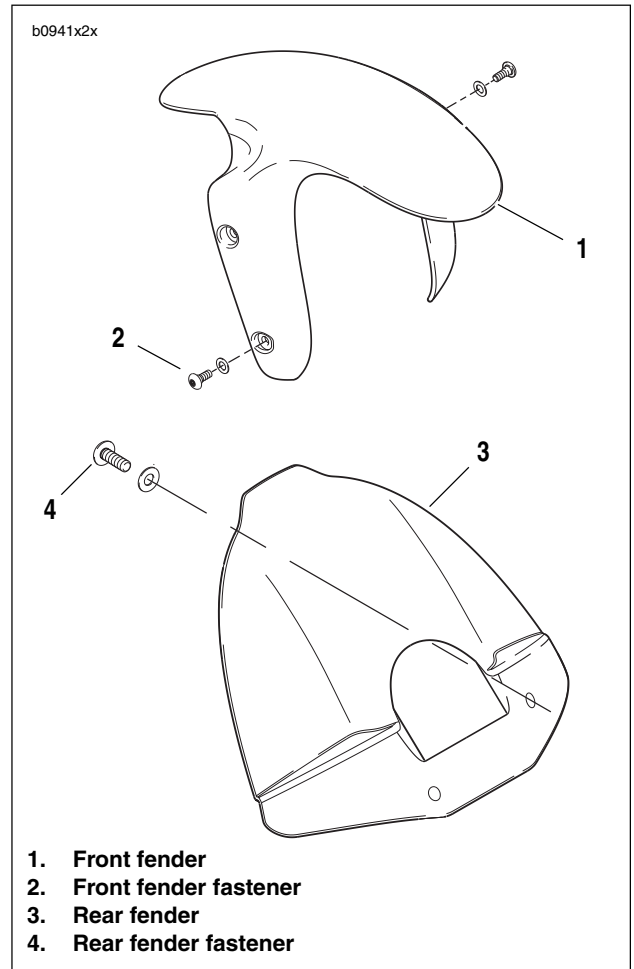

Figure 2-108. Front and Rear Fender
1. See Figure 2-108. Remove fasteners and washers (2) securing the front fender (1) to front forks.
2. Carefully remove front fender (1).
1. See Figure 2-108. Align front fender (1) to fender mounts on front forks.
2. Install front fender (1) with fasteners and washers (2) and tighten to 12-36 **in-lbs** (1-4 Nm).
2. See Figure 2-108. Remove fasteners and washers (4) securing the rear fender (3) to frame.
3. Remove rear fender (3).
1. See Figure 2-108. Align rear fender (3) to frame.
2. Install rear fender (3) with fasteners and washers (4). Tighten to 12-15 **in-lbs** (1-1.7 Nm).